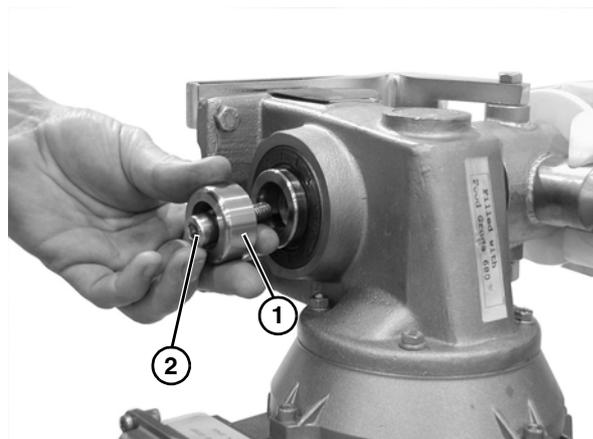

Figure 13
- Attach the bore plug (**Figure 13, item 1**) and tighten the socket head screw (**Figure 13, item 2**). Snap cover onto bore plug (**Figure 13, item 1**).